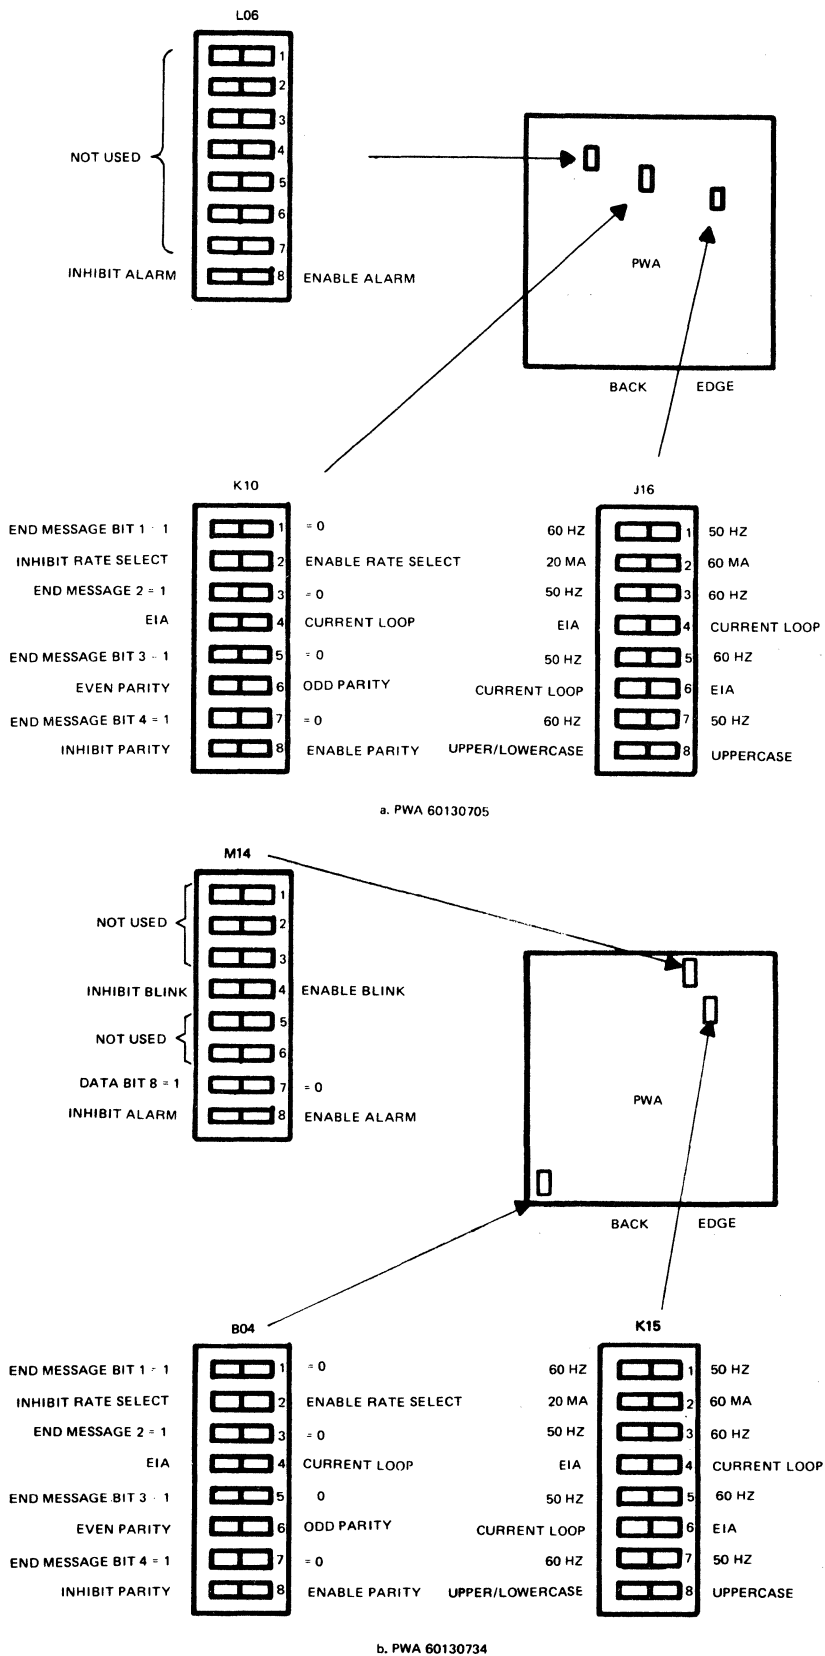

Figure 9-1 Internal Switches
3. Refer to Figure 9-1 and find switches at locations B04, K14, and M13 for PWA 60130734 or K10, J16, and L06 for PWA 60130705.